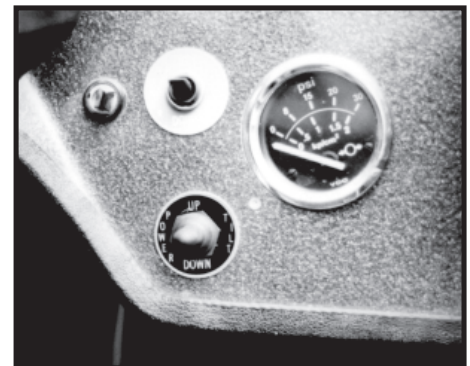

Fig. 15
- Step 13: Push the toggle switch through the 1/2 inch hole that you previously drilled. Place the up-down switch plate and rubber boot with nut on the switch (Fig. 15).